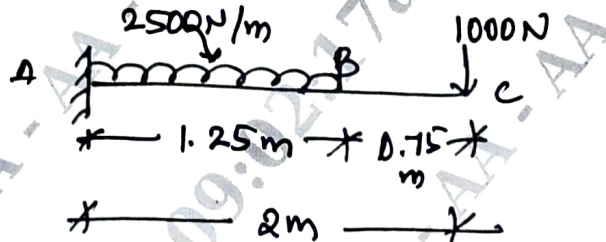

Fig.Q9(b)
b. A cantilever of length 2m carries a UDL of 2500N/m for a length of 1.25m from the fixed end and a point load of 1000N at the free end. If the section is rectangular 120mm wide and 240mm deep, find the deflection at free end. Take $E = 10000 \text{ N/mm}^2$. (Refer Fig.Q9(b)).